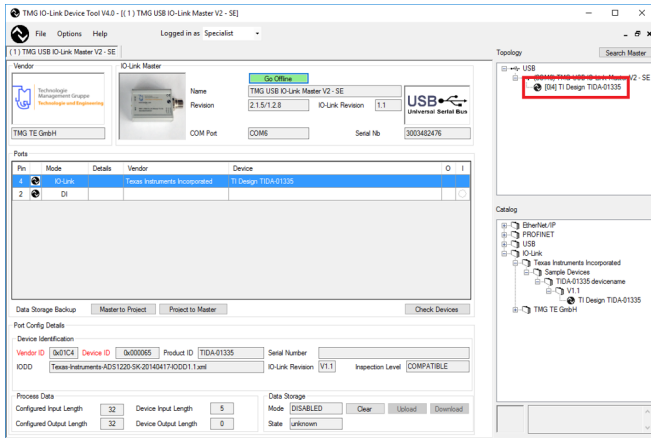

图 16. IO-Link Master GUI 5
5. Double-click in the "Topology" window on "TI Design TIDA-01335" to open the details of this reference design (see 图 16).